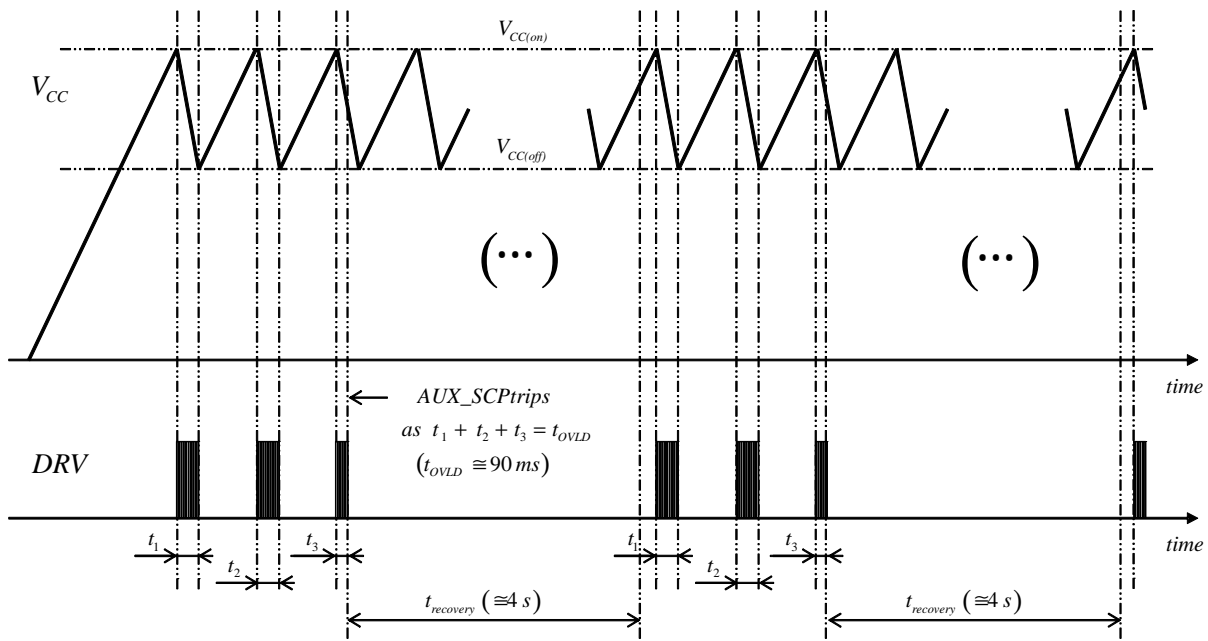

Figure 60. Start-up Sequence in a Load Short-circuit Situation (auto-recovery versions)
- If the load is shorted, the circuit will operate in hiccup mode with  $V_{CC}$  oscillating between  $V_{CC(off)}$  and  $V_{CC(on)}$  until the AUX\_SCP protection trips (AUX\_SCP is triggered if the ZCD pin voltage does not exceed 1 V within a 90-ms operation period of time thus indicating a short to ground of the ZCD pin or an excessive load preventing the output voltage from rising). The NCL30088A and NCL30088C latch off in this case. With the B and D versions, the AUX\_SCP protection forces the 4-s auto-recovery delay to reduce the operation duty-ratio. Figure 60 illustrates a start-up sequence with the output shorted to ground, in this second case.